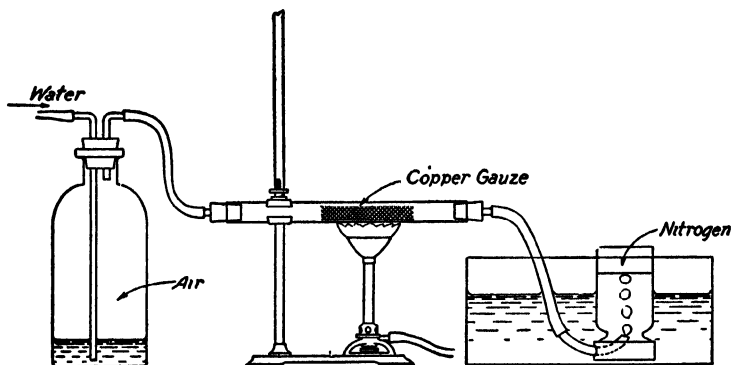

FIG. 27.
a. (Two students working together.) Set up the apparatus as shown in Fig. 27, and connect the rubber tube on the left with the water supply. Roll up the copper gauze and insert it in the middle of the hard glass tube.